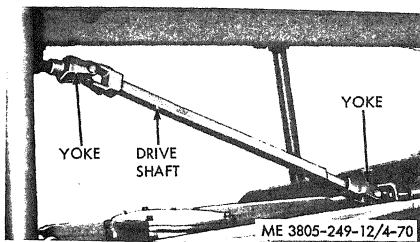

Figure 4-70. Drive shaft and universal joints removal.
a. *Removal.* Refer to figure 4-70.
(1) Support the drive shaft and remove the